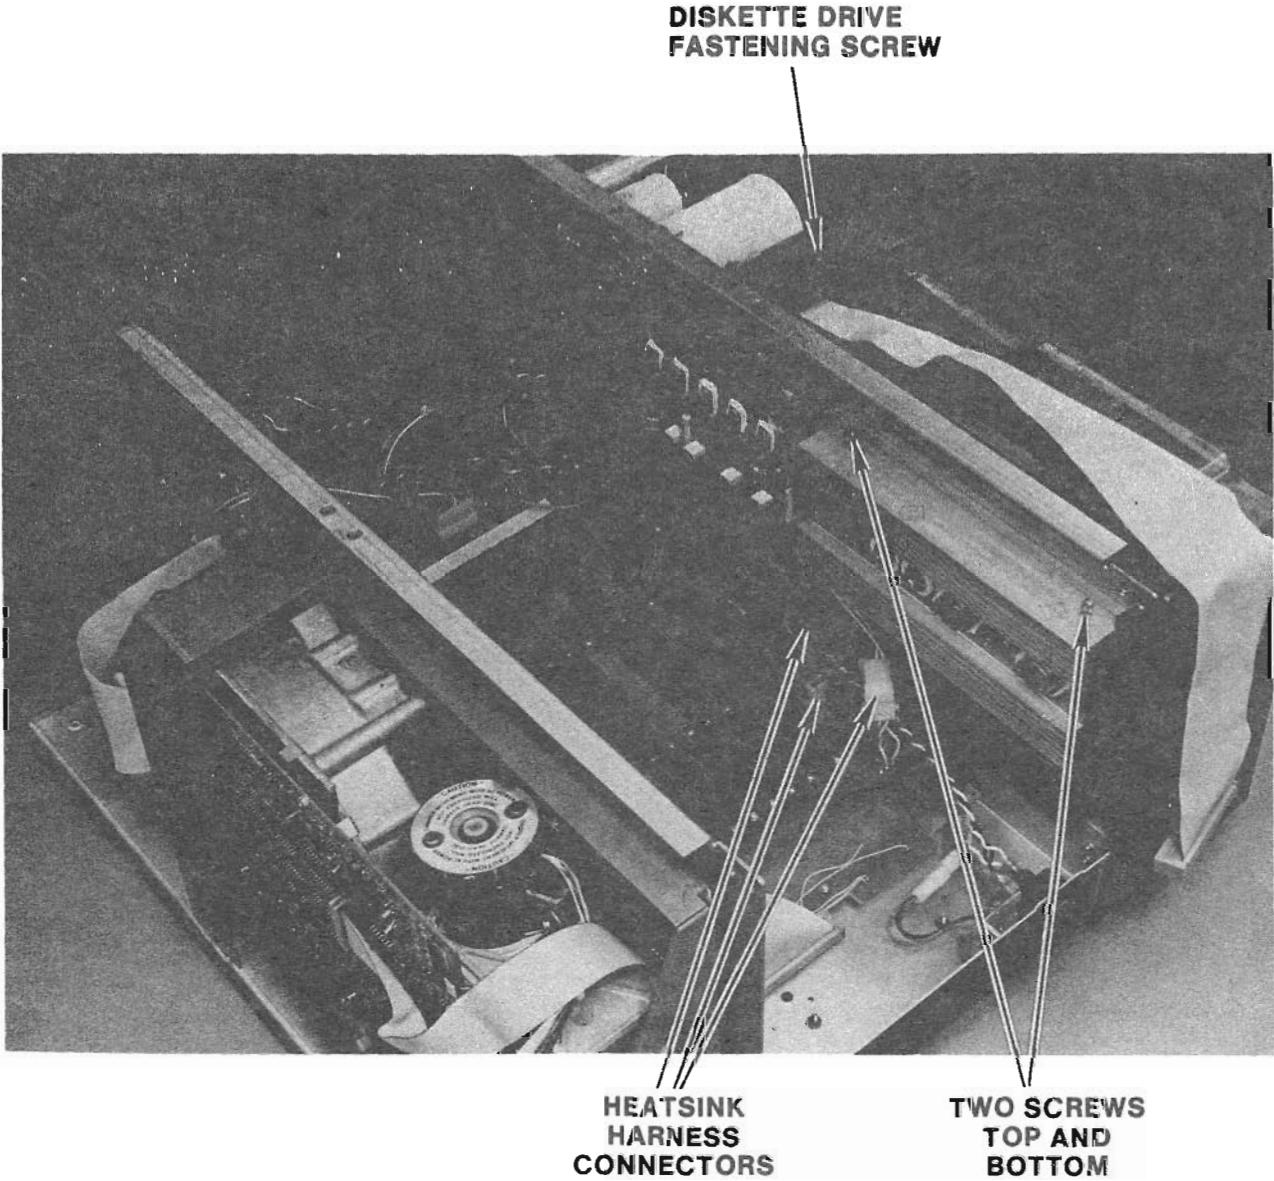

FIGURE 11-5 DSDD DISKETTE DRIVE REMOVAL; HEATSINK REMOVAL
3. Using a slot screwdriver, remove the screw that secures the fastening bracket to the top of the drive (ref: FIGURE 11-5).
2. Disconnect all heatsink harness cables (ref: FIGURE 11-5).
3. Using a phillips screwdriver, remove the four screws securing the heatsink to the chassis (ref: FIGURE 11-5), and remove the heatsink.